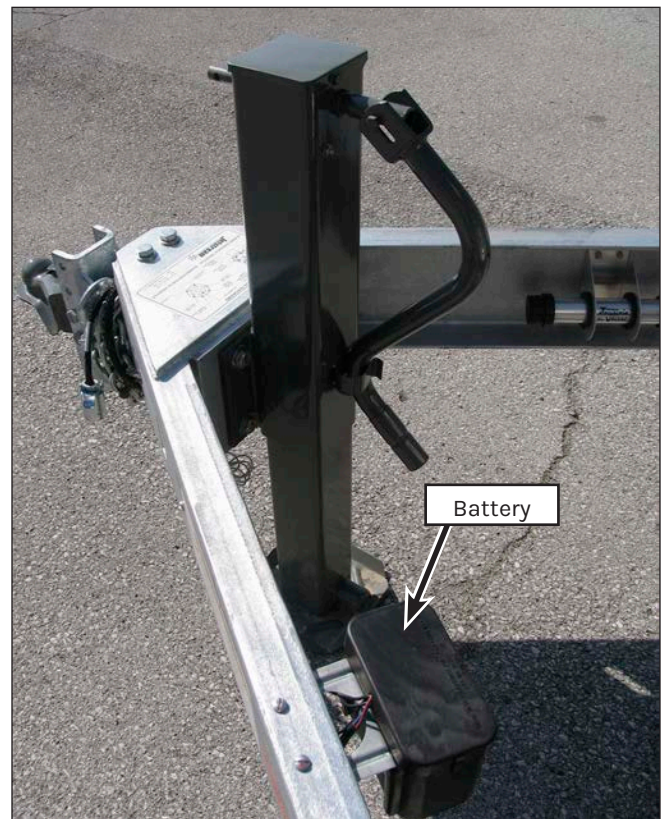

Figure 49: Battery Case.
2. Open the battery case (Figure 49) and check the battery voltage using a voltmeter. The battery should be approximately 12V. If less than 12V, charge the battery. Note the voltage before proceeding to the next step.